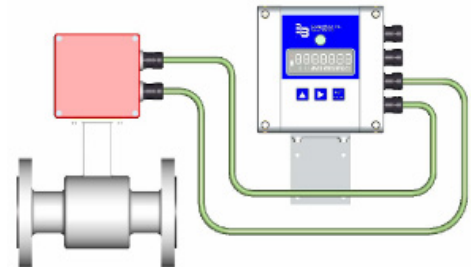

Figure 28: Cables in cable glands
2. Push both cables through two different cable glands as shown in Figure 28.